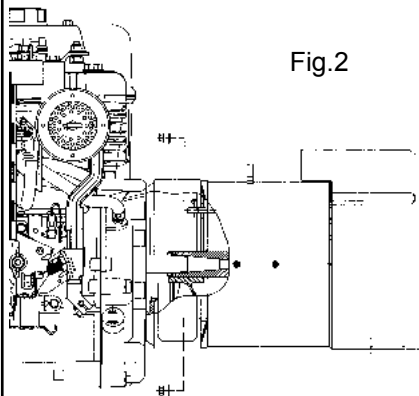

Fig.2
-) lock the alternator into the cover by fixing the four M8 nuts onto the bolts, applying a tightening torque of $16 \pm 7\%$ Nm (figure 2)